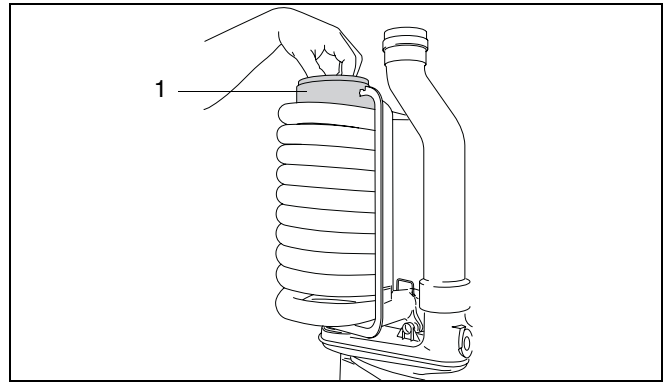

fig. 61 Remove restrictor baffle
- Remove the restrictor baffle from the heat exchanger (fig. 61, item 1).